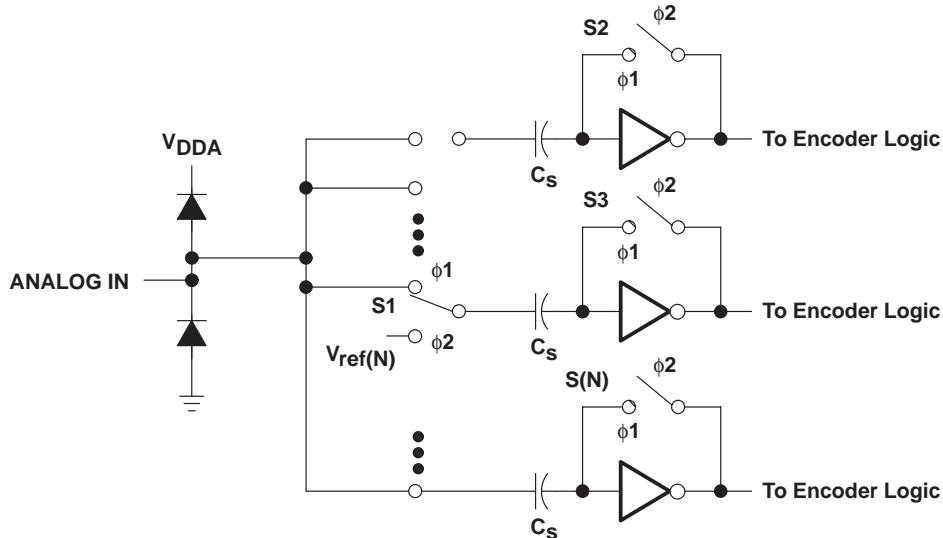

Figure 20. External Connections for Using the Internal Reference Resistor Divider
Figure 20 depicts the analog input for the TLV5510. The switches shown are controlled by two internal clocks, ϕ_1 and ϕ_2 . These are nonoverlapping clocks that are generated from the CLK input. During the sampling period, ϕ_1 , S1 is closed and the input signal is applied to one side of the sampling capacitor, C_s . Also during the sampling period, S2 through S(N) are closed. This sets the comparator input to approximately 2.5 V. The delta voltage is developed across C_s . During the comparison phase, ϕ_2 , S1 is switched to the appropriate reference voltage for the bit value N, i.e., $V_{ref(N)}$. S2 is opened and $V_{ref(N)} - V_{C_s}$ toggles the comparator output to the appropriate digital 1 or 0. The small resistance values for the switch, S1, and small value of the sampling capacitor combine to produce the wide analog input bandwidth of the TLV5510. The source impedance driving the analog input of the TLV5510 should be less than 100 Ω across the range of input frequency spectrum.